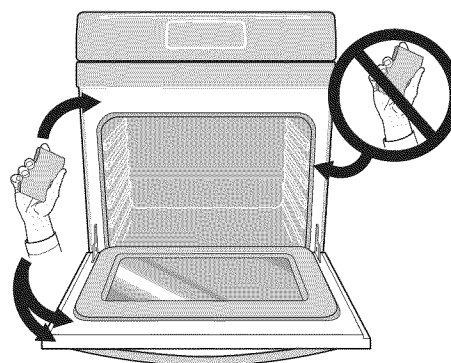

Figure 37: Oven door area to clean and not clean (gasket)
- Clean any soil from the oven frame, the door liner outside the oven door gasket and the small area at the front center of the oven bottom (See Figure 37). These areas heat sufficiently to burn soil on. Clean using soap and water prior to starting Self Clean.
- Do not clean the oven door gasket (See Figure 37). The woven material of the oven door gasket is essential for a good seal. Care should be taken not to rub, damage, or